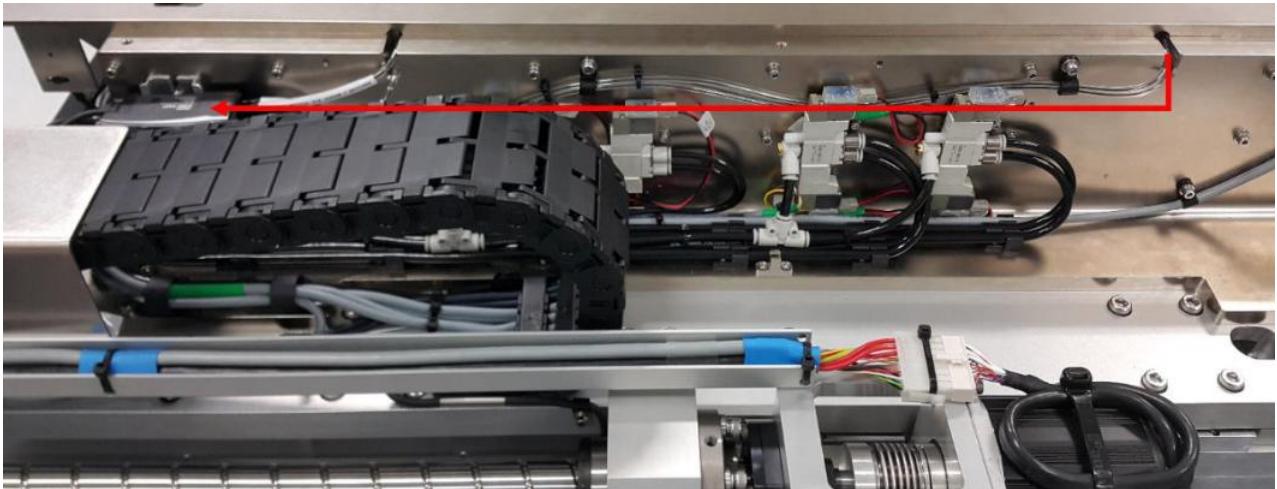
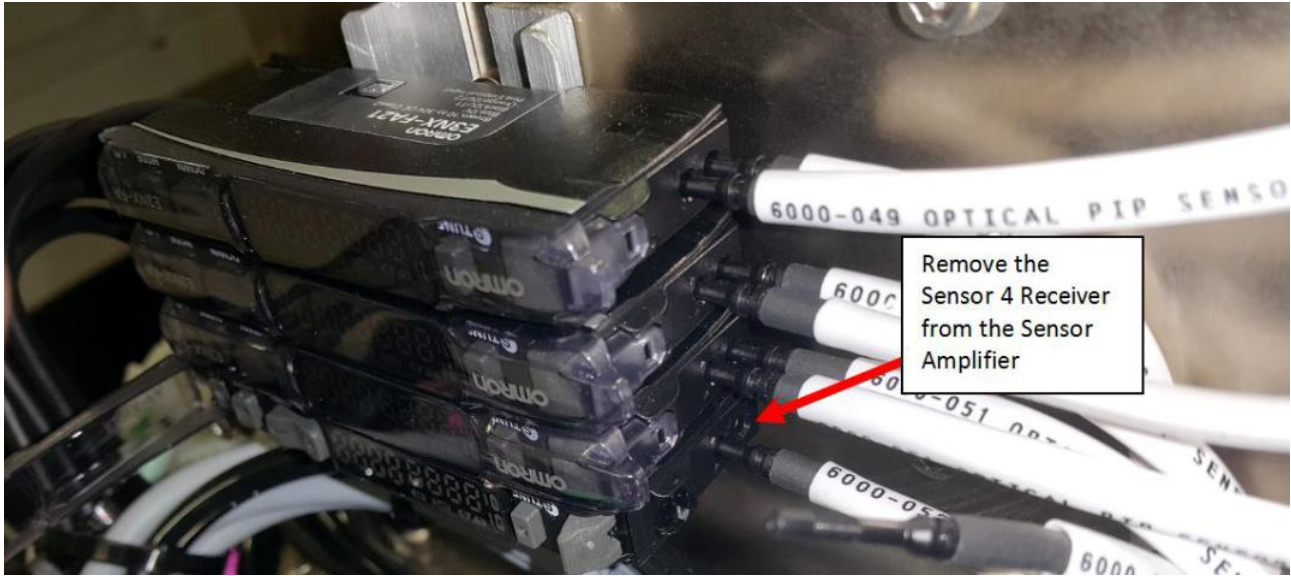

Figure 17 Sensor 4 Receiver Cable Routing
Figure 20 Sensor 4 Receiver (Amplifier)
3. Remove Sensor 4 Receiver Head Cable by refer route from Figure 17 to Figure 20.